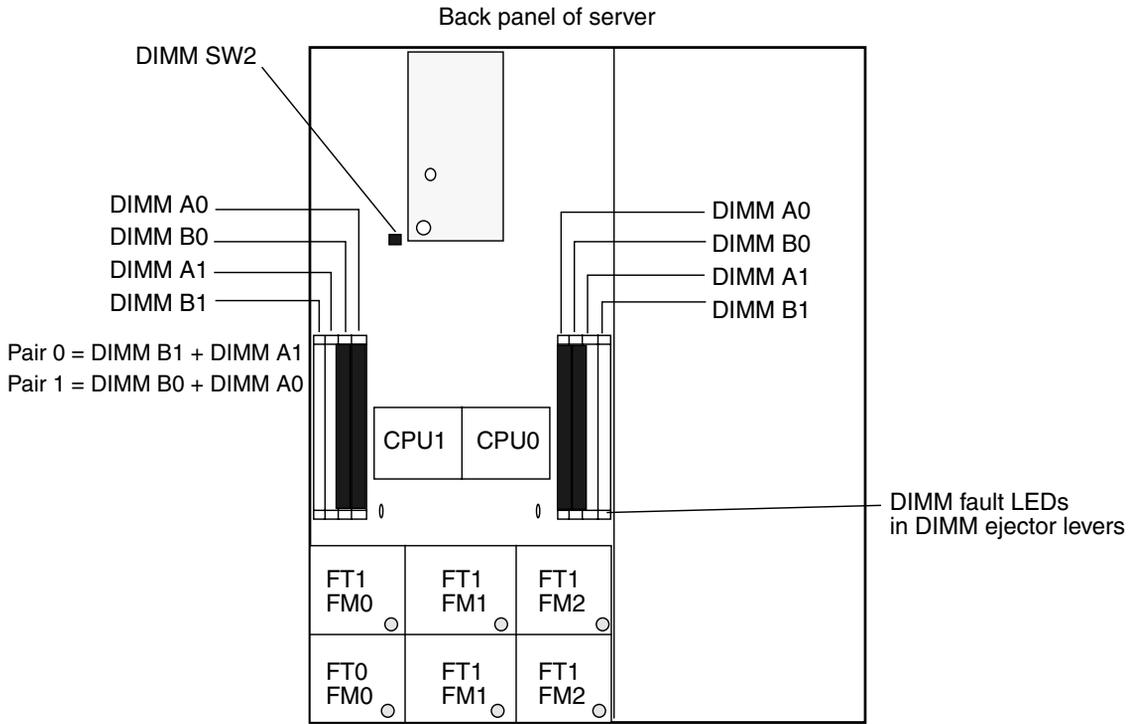

FIGURE 1-5 Sun Fire X4100 M2/X4200 M2 DIMM Slot Locations
- Sun Fire X4100 M2/X4200 M2 servers only: You can view the DIMM fault LEDs without the power cords attached. These LEDs can be lit by a capacitor on the motherboard for up to one minute. To light the DIMM fault LEDs from the capacitor, push the small button on the motherboard labeled “DIMM SW2.” See FIGURE 1-5.
FIGURE 1-5 shows the numbering of the Sun Fire X4100 M2/X4200 M2 DIMM slots.